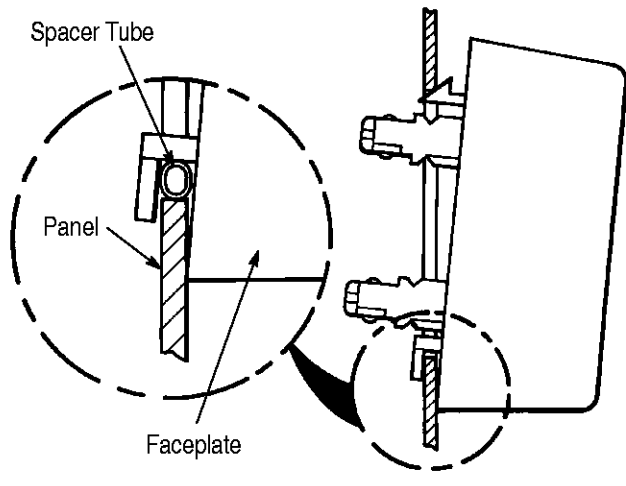

Figure 4
4. Install assembled faceplate as shown in Figure 4. If the faceplate assembly is not secure in the panel opening, use supplied spacer tubes to firmly secure faceplate.